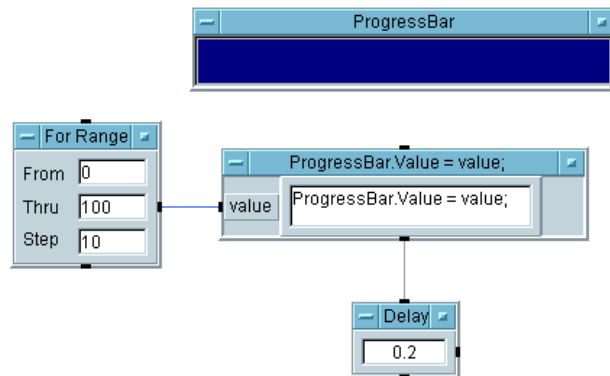

Figure 274 Using the ActiveX Control “ProgressBar”
- 5 To slow down program execution so that you can see the ProgressBar updating, select **Flow** ⇒ **Delay** and place the object to the right of the **For Range** object. Set it to .2. Connect the ProgressBar sequence output pin to the Delay object sequence input pin, as shown in Figure 274, and run the program.